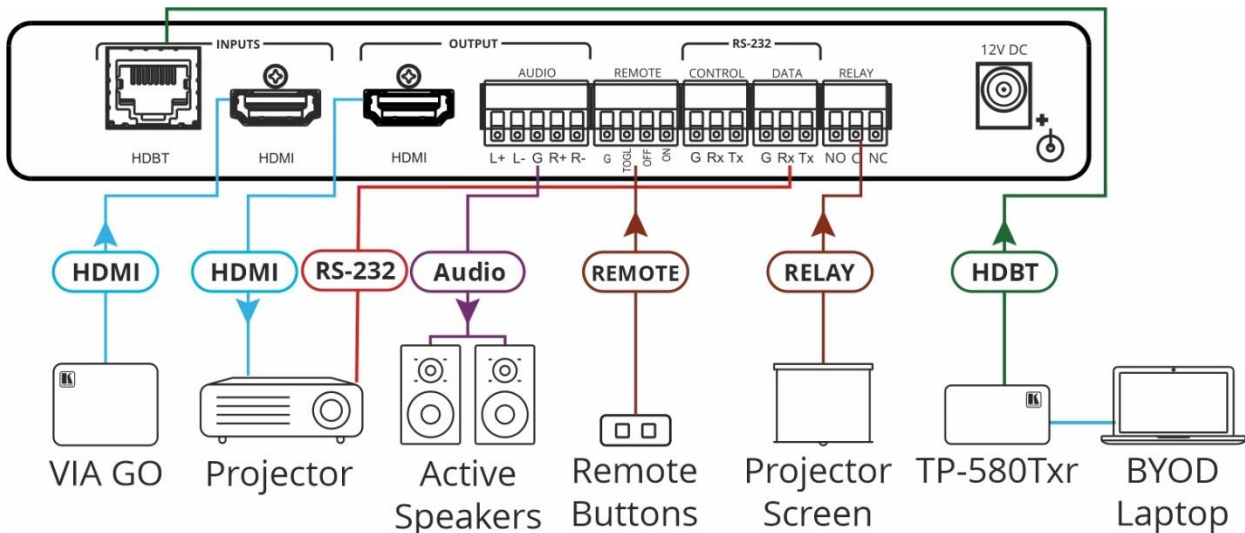

Figure 3: Connecting to VP-427X
To connect VP-427X as illustrated in the example in Figure 3:
1. Connect an HDBT transmitter (for example, Kramer **TP-780T**) to the INPUT HDBT RJ-45 port (11) on the rear panel. The transmitter is connected to a BYOD laptop.
2. Connect an HDMI source (for example, Kramer **VIA GO²**) to the HDMI INPUT connector (12).
3. Connect the HDMI OUT connector (13) to an HDMI Acceptor (for example, a projector).
4. Connect the AUDIO OUT 5-pin terminal block connector (14) to a balanced stereo audio acceptor (for example, Kramer **Tavor 5-O** active speakers).
5. Connect the serially-controlled projector to the RS-232 DATA 3-pin terminal block connector (16) for control via RS-232 from the HDBT transmitter.
6. Connect the REMOTE 4-pin terminal block connector (15) to remote buttons.
7. Connect the RELAY 3-pin terminal block connector (18) to a projector screen
8. Connect the power adapter to the **VP-427X** and plug the adaptor to the mains electricity (not shown in Figure 3).